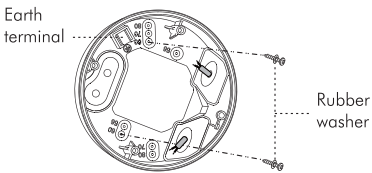

FIG.14
4.2.3.3. Choose proper knock outs to fix the junction box on the surface of ceiling board with 2 pcs wood screws attached with rubber washer (See FIG.14).